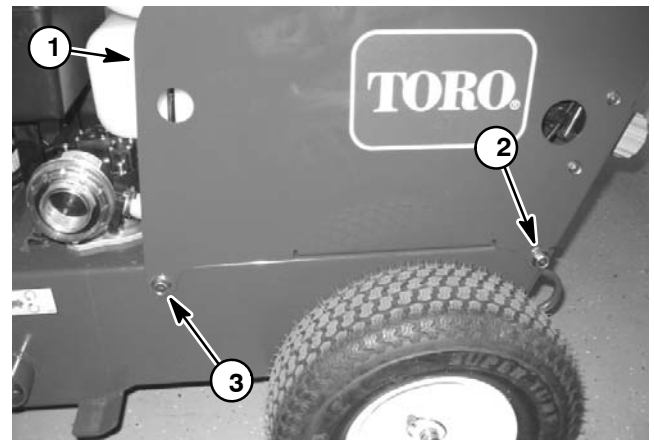

Figure 9
6. Loosen the rear two flange head screws that fasten tank support to chassis (Fig. 9).
7. While supporting handle and tank support in the upright position, remove the front two (2) flange head screws that fasten tank support to chassis (Fig. 9).